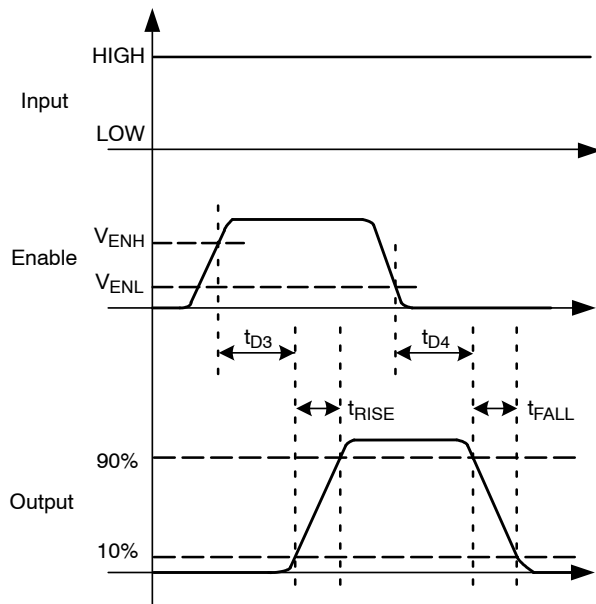

Figure 9. Non-Inverting (IN HIGH)
11. See Timing Diagrams of Figures 9 and 10.